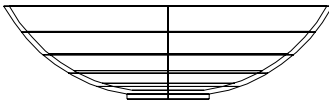

Fig. 15.18 Second example
- Construct a solid of revolution in the shape of a bowl in the **3D Navigate/Front** view (Fig. 15.18).